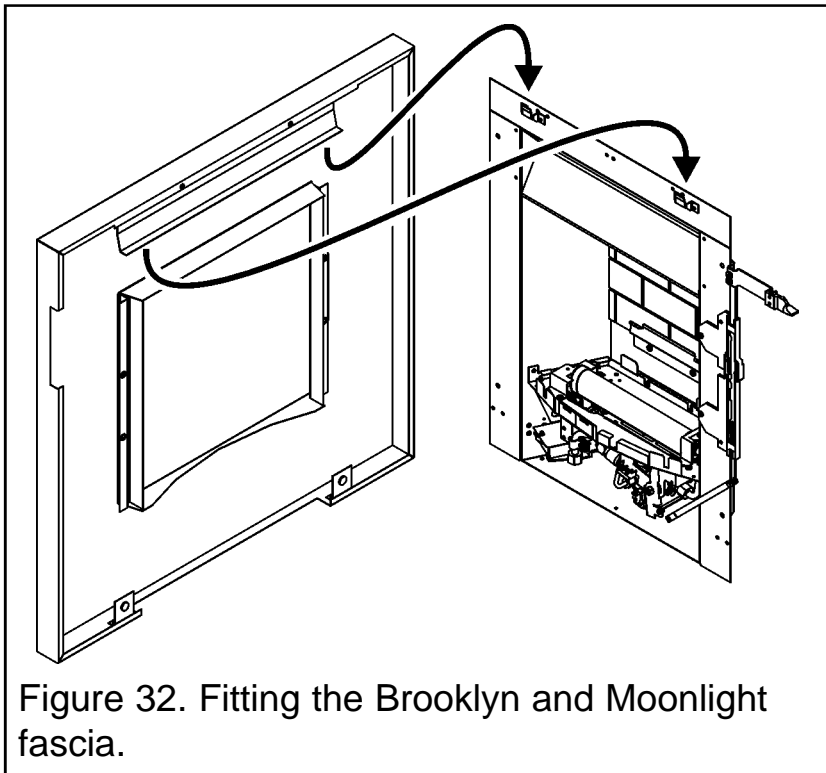

Figure 32. Fitting the Brooklyn and Moonlight fascia.
2. Fit the fascia to the appliance by locating the upper bracket to the upper hanging brackets on the hotbox (See figure 32). The lower section of the fascia is fitted with magnets.